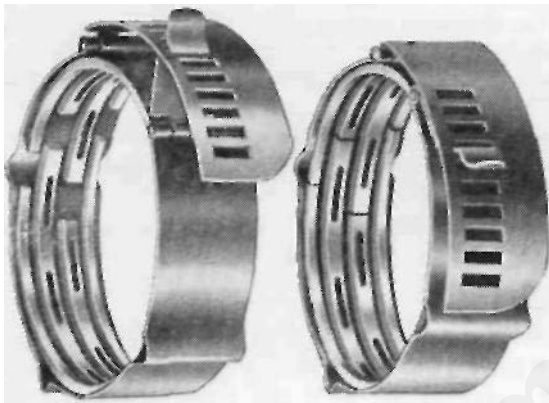

FIG. 38
**Refitting the piston.** The piston ring gap is already allowed for during the process of manufacture, if supplied by our spares department. If the engine is affected with heavy oil consumption, use a Duaflex ring, which will prevent oil reaching the combustion chamber. Fit the piston with the large cut-away in the crown facing the inlet valve. Use a rotary motion to insert the circlips, with round-nose pliers and ensure the circlip is correctly located. A piston ring clamp of the type shown in Fig. 38 is desirable, as the close proximity of the cylinder studs makes it somewhat difficult to refit the cylinder as previously described.